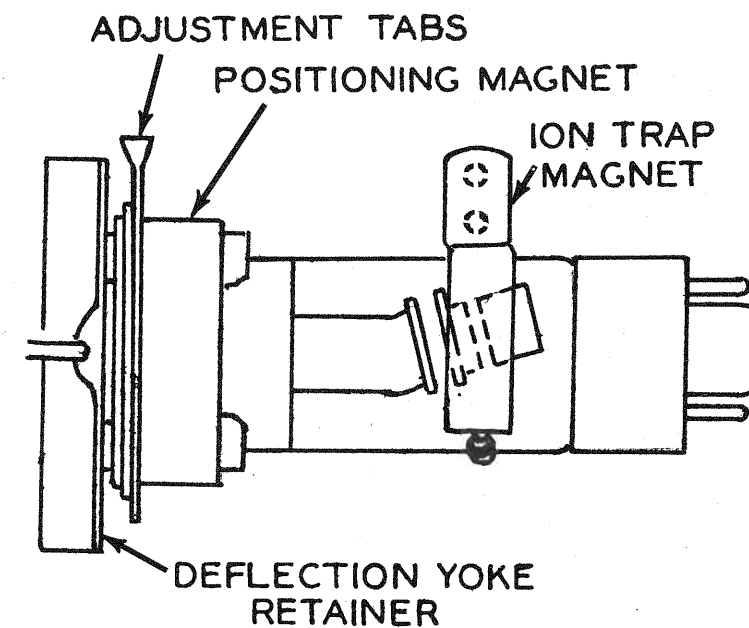

FIG.10
1. With receiver turned off place the magnet on the neck of the tube as in fig. 10.
4. If magnet is not now in the position as shown in fig. 10, place one of the shunts on the magnet and repeat the above procedure.